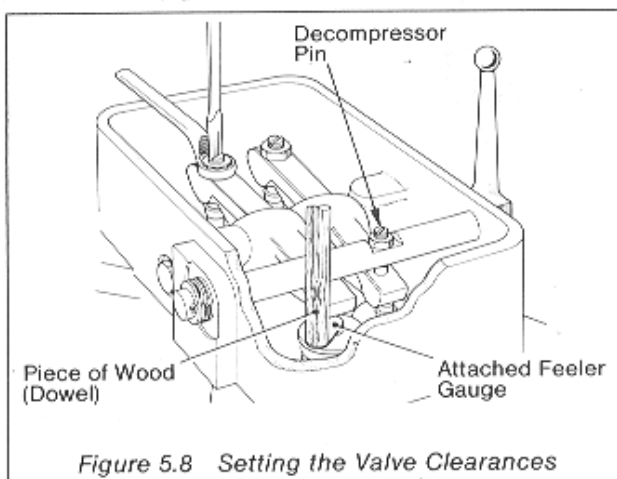

Figure 5.8 Setting the Valve Clearances
### Valve Rockers Adjustment (Figure 5.8)
*Due to the close confines of the rocker box a suitable feeler gauge as shown in Figure 5.8 should be used to set the valve clearances.*
- (2) Slacken the locknut and using a screwdriver set the rocker adjusting screw to give the correct valve clearance with a feeler gauge and when the correct setting of 0.10mm (0.004 in.) is obtained (cold) tighten the locknut.
- (3) Recheck the clearance.
### Setting the Decompressor Lever (Figure 5.8)